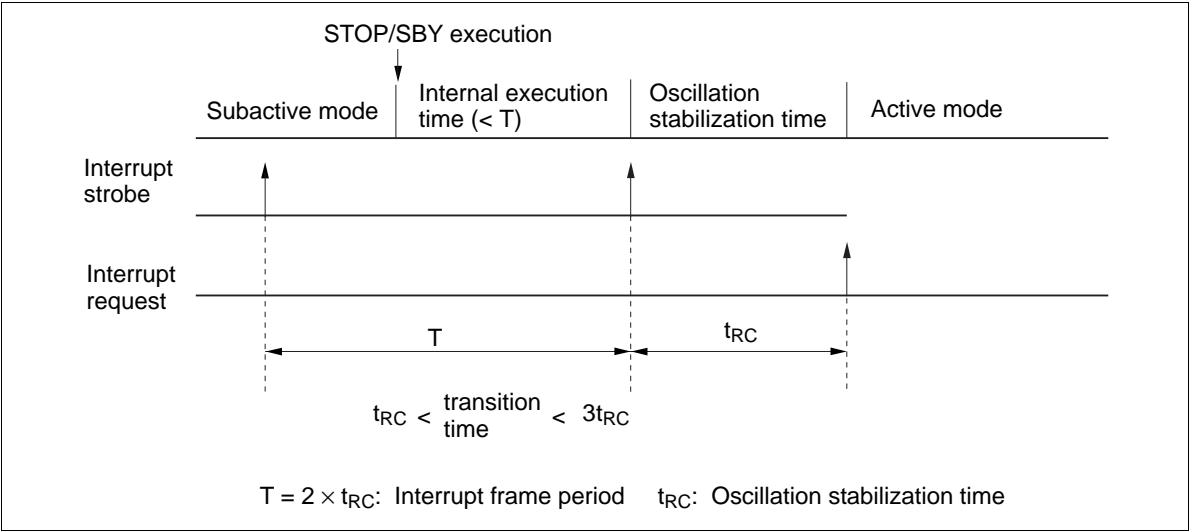

Figure 13 Timing of Subactive Mode Direct Transition
The MCU enters active mode from subactive mode by the following steps. The MCU enters watch mode if the STOP or SBY instruction is executed in subactive mode while the LSON is reset and the DTON is set. At the next interrupt frame, the MCU waits for the oscillation time selected by the MIS to stabilize, and then enters active mode (figure 13). After that, the DTON is automatically reset (the DTON can be set only in subactive mode).
- After the oscillation stabilization time (a fixed value), the MCU will move automatically from subactive to active mode (figure 13).